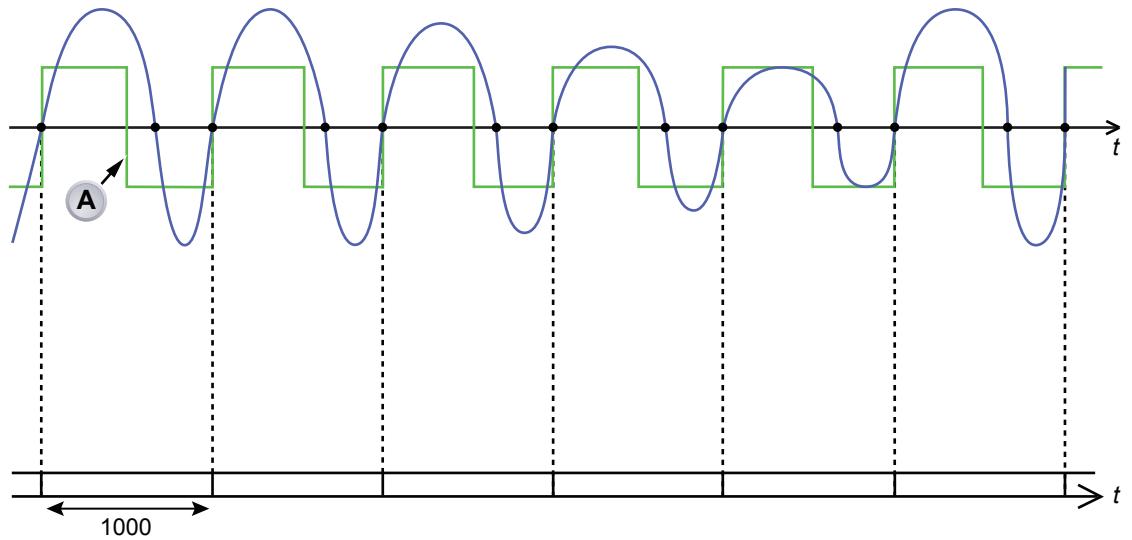

Figure E.14: Cycle detector set to detect full cycles
- A** The falling edge of the calculated channel is always positioned in the middle of two consecutive rising edges. Figure E.14 shows the output of this calculated channel (green) and the input signal of the cycle detector (blue) with the cycle detector set to rising edge full cycle mode. The input signal is asymmetrical.